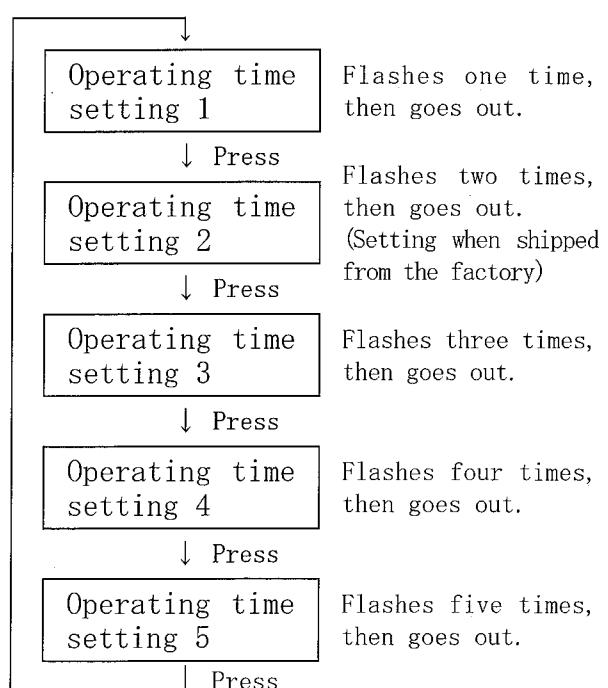

Fig. 13
- (4) Pressing the manual switch① actuates the solenoid. The number of times that the power lamp flashes also changes. Each time that the manual switch① is pressed, the operating time changes as shown in Fig. 13.